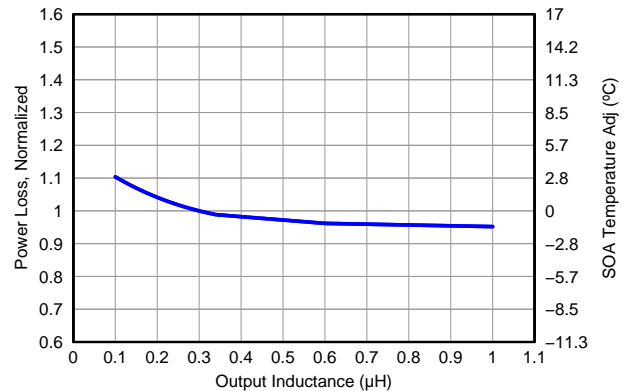

Figure 15. Normalized Power Loss vs Output Inductance
- Normalized Power Loss for output inductor \approx 1.04 (Figure 15)
- SOA adjustment for output inductor \approx 1.3°C (Figure 15)